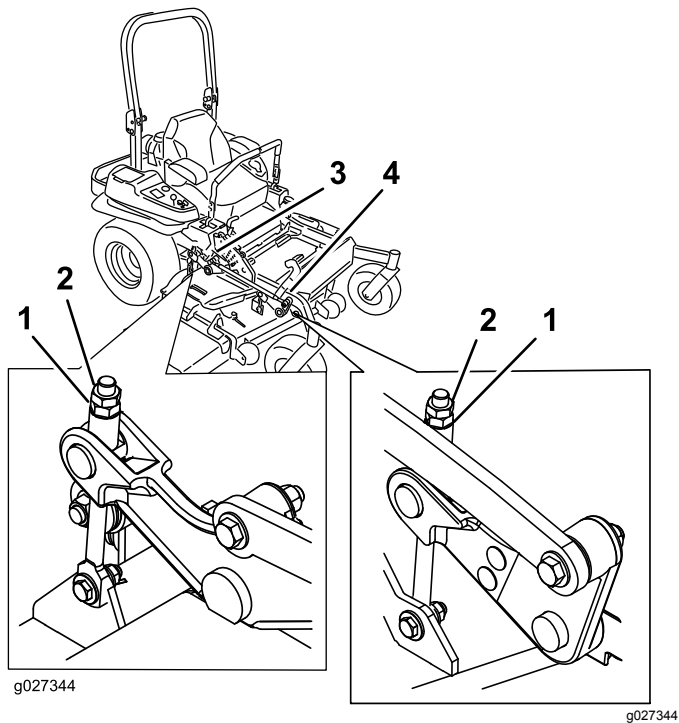

Figure 90
10. For mower decks shown in Figure 90, fine-tune the adjustment nut on the front deck-lift assembly by turning it.